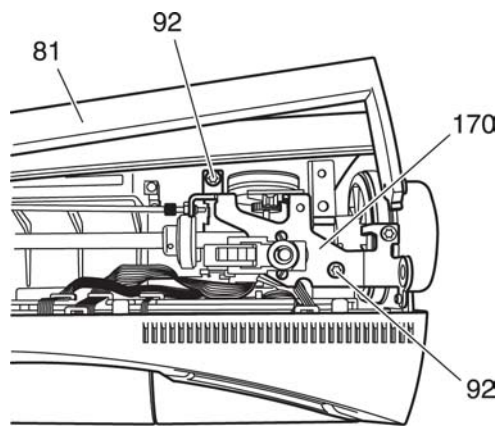

Fig. 48c
- Tighten the two screws 92 (Fig. 48c).